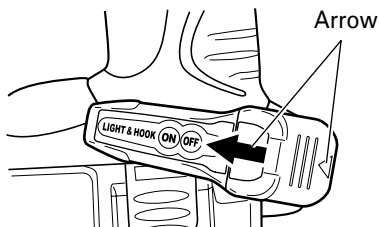

Fig. 16
Remove the hook cover by pushing in the direction of the arrow. (Fig. 16)
- (c) Align the indentation in the hook main body with the protuberance of the hook cover, press the hook cover in the direction opposite to that of the arrow shown in Fig. 16 and then tighten the screw.